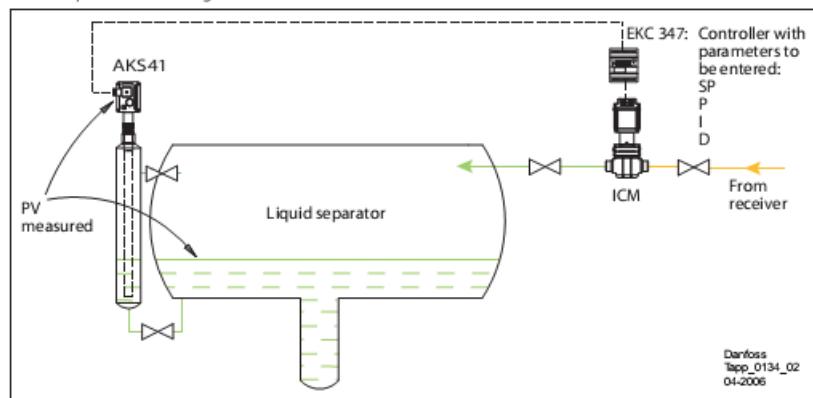

Figure Q2-2. (C)
- (c) Explain the operation of AKS41 and EKC 347 in Figure Q2-2.(C) (6 marks)